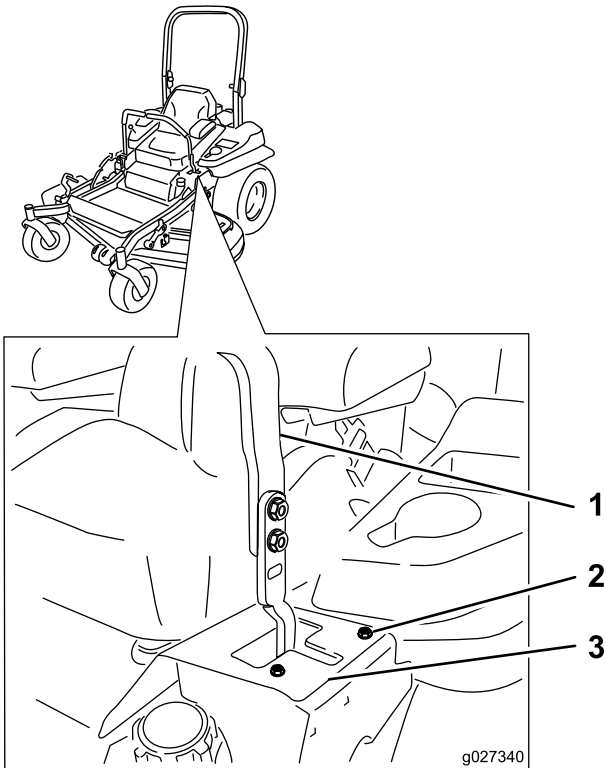

Figure 58
6. If the machine tracks to the right, loosen the bolts and adjust the left stop plate rearward on the left T-slot until the machine tracks straight (Figure 58).
7. If the machine tracks to the left, loosen the bolts and adjust the right stop plate rearward on the right T-slot until the machine tracks straight (Figure 58).
8. Tighten the stop plate (Figure 58).